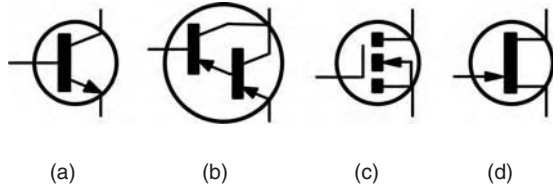

Figure 6.74
1. Identify the types of transistor shown in Figure 6.74(a)–(d).